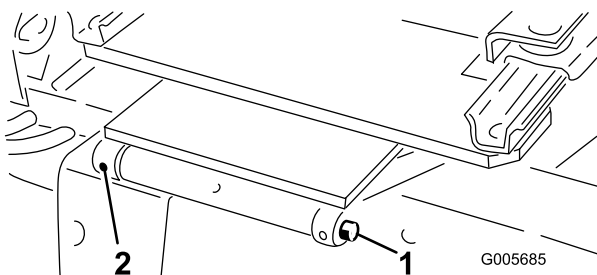

Figure 9
3. Mount seat and seat support to seat pivot bracket with pivot shaft and roll pin (Figure 9).
- 5. Mount seat and seat support to seat pivot bracket with pivot shaft and roll pin (Figure 9).